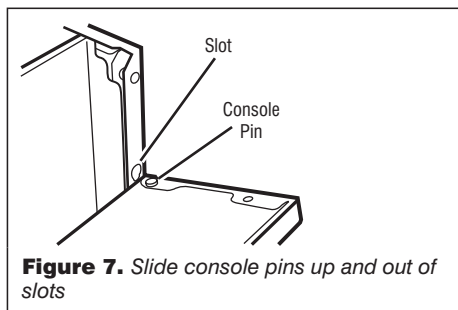

Figure 7. Slide console pins up and out of slots
3. Slide the console so that the console pins located at the bottom corners of the console move up and out from the slots, removing the console from the front of the machine. See figure 7.